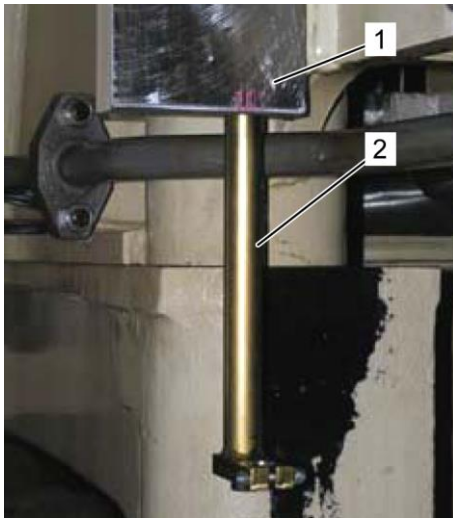

Fig. 29: Mounted tube type sensor bracket
2. Tighten the tube type sensor bracket (Fig. 29/2) with the bolt M10 or M12 (Fig. 29/1) in the web plate on left (first cylinder) or right (last cylinder) hand side of the crosshead.